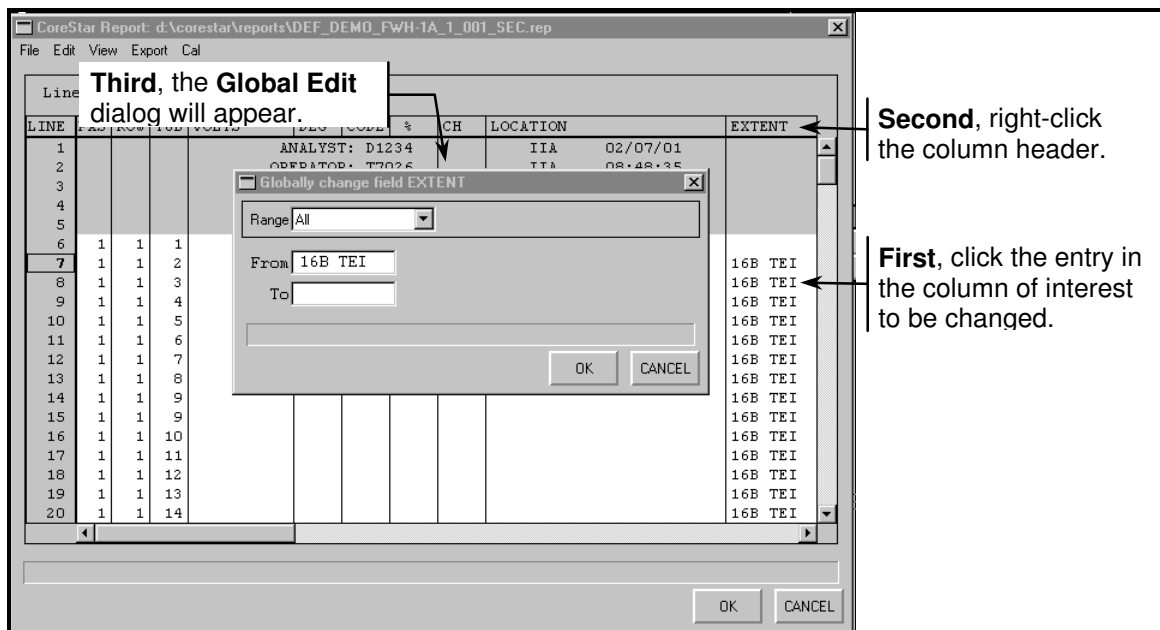

Figure 3-73. Global Edit Dialog
During the final editing stage of an eddy current report, it may be desired to perform a global edit, i.e., change entries in certain columns of the report from one value to another. EddyVISION32 provides two (2) global editing dialogs. Depending on the field to be edited, the appropriate dialog will appear. As an example in Figure 3-73, the **EXTENT** field header was **right-clicked** causing the **Global Edit** dialog shown to appear. This particular dialog type automatically appears when text editing is required. The desired entry in the **EXTENT** column was **first** clicked; therefore, the current value in the field is displayed in the **From** field on the **Global Edit** dialog as shown, i.e., **16B TEI**. Simply enter the new value in the **To** field and click **OK** to change all the matching values in this column to the new value.